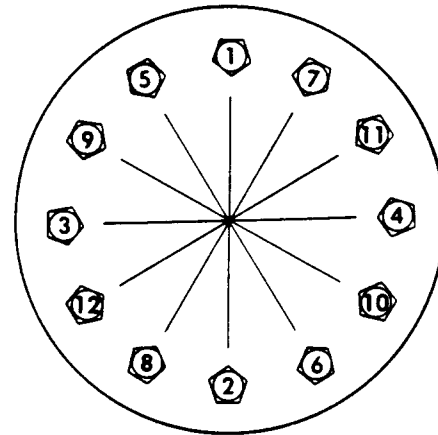

Figure 6-20: Lug Nut Tightening Sequence
4. Tighten locknuts to 85 lb-ft (115 N•m) in sequence shown (Figure 6-20).